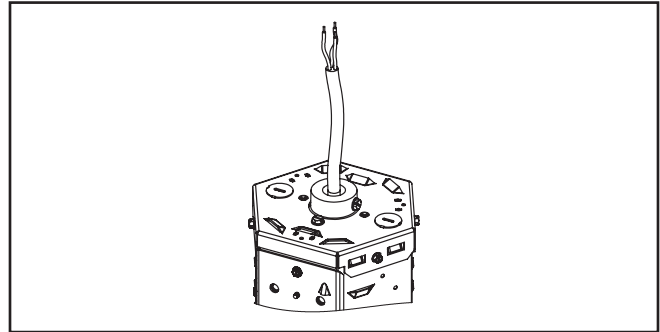

Figure 7.
1. Wire according to code (Figure 7).